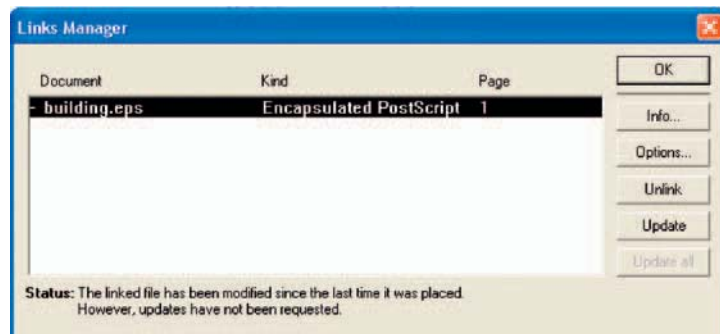

Fig. 10.5 The Links Manager dialog of PageMaker
Second example – EPS file (Fig. 10.5)
8. Go back into **PageMaker** and click **Links Manager...** in the **File** drop-down menu. The **Links Manager** dialog appears (Fig. 10.5).